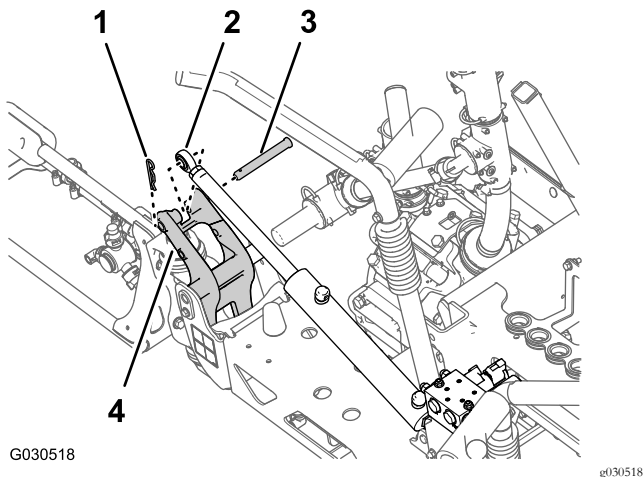

Figure 63
- Remove the hairpin and clevis pin that secure the rod end of the lift cylinder to the pivot bracket (Figure 63).